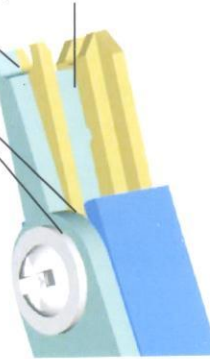

Fig.2
- 3.Press insertion tool into the block slot along vertical direction, press flake is connected rightly to the slot, knife edge is cable cutting side, See fig.2;